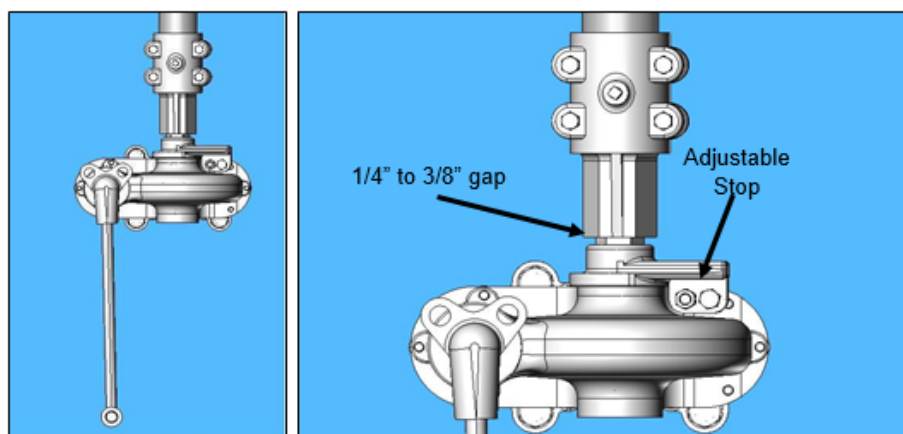
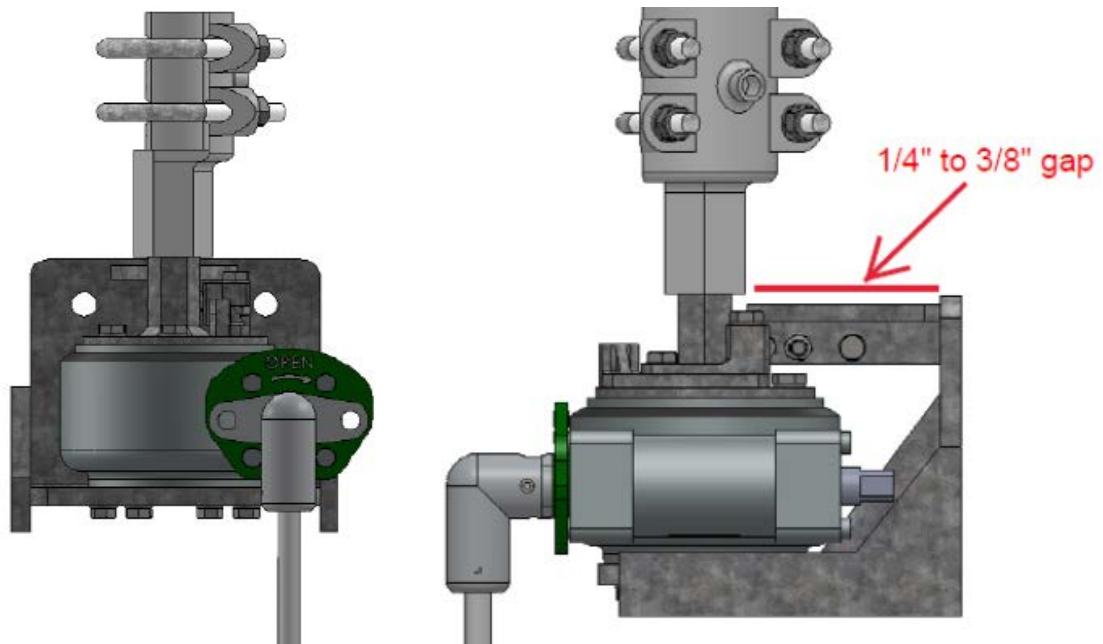

Figure 16: Type HOGO (High Output Geared Operator) Front View
Figure 17: Type SEGO (Safety Enhanced Gear Operator)
- 5.7. **CAUTION:** The pipe collar (above the vertical bearing support) must support the entire weight of the vertical operating pipe. **Do not allow the pipe to rest on the switch operating device.** Refer to **Figure 16 & Figure 17**.
6.2.1.2. When the switch is properly adjusted the operator handle should hang vertically and free in both the open and closed positions to permit the use of a customer supplied padlock. Refer to **Figure 16**